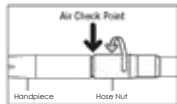
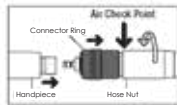

Fig. 1
Fig. 2
- 2) Tighten the Hose Nut. (Fig.1)
- 2) Slide back the Connector Ring as shown in Fig.2
Set the Air pressure at the "Air Check point" on Fig. 1 and Fig. 2 The setting values are on the specification table. Do not exceed the recommended air pressure by using Multi Gauge.